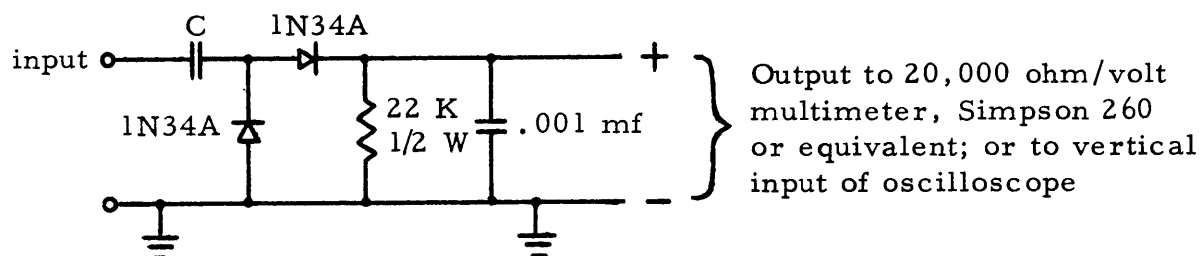

Fig. 5.1 - R-f Detector
Prior to checking alignment of FL8 and FL9 it is necessary to check the VFO output. Two methods of measurement are given. Either a high frequency vacuum tube voltmeter or a 20,000 ohm per volt multimeter is required. If the latter instrument is used, the detector circuit of Fig. 5.1 will be required. Value of C, Fig. 5.1, is 470 mmf.
If the VFO output is correct, connect the r-f VTVM or detector input to the junction of R33 and R34. The value of C, Fig. 5.1, is 3 mmf for this measurement. Keep the leads to the VTVM or detector as short as possible. Replace V12. Tune the MAIN TUNING from one end of its range to the other. The voltage at the junction of R33 and R34 should be  $0.6 \pm 0.1$  volts rms; or  $0.3 \pm 0.05$  volts d-c, as read on the multimeter, throughout the entire 2 mc tuning range.
| (4) R-f Detector     | Fig. 5.1, C is 3 mmf   |